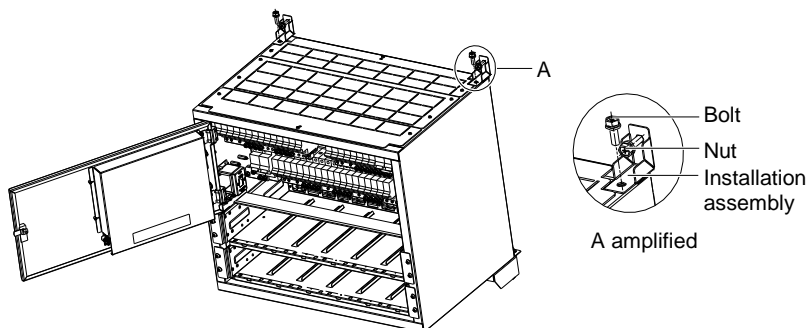
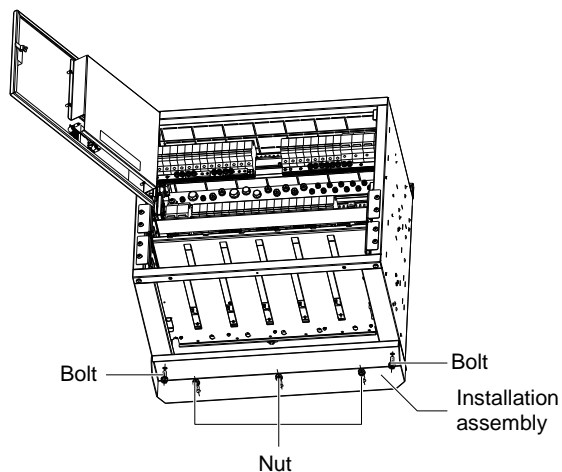

Figure 2-5 Installing the power supply system to the wall (a)
Figure 2-6 Installing the power supply system to the wall (b)
2. Use bolts to fix the installation assembly to the power supply system. Use plain washers, spring washers and nuts to fix the power supply system to the wall, as shown in Figure 2-5 and Figure 2-6.